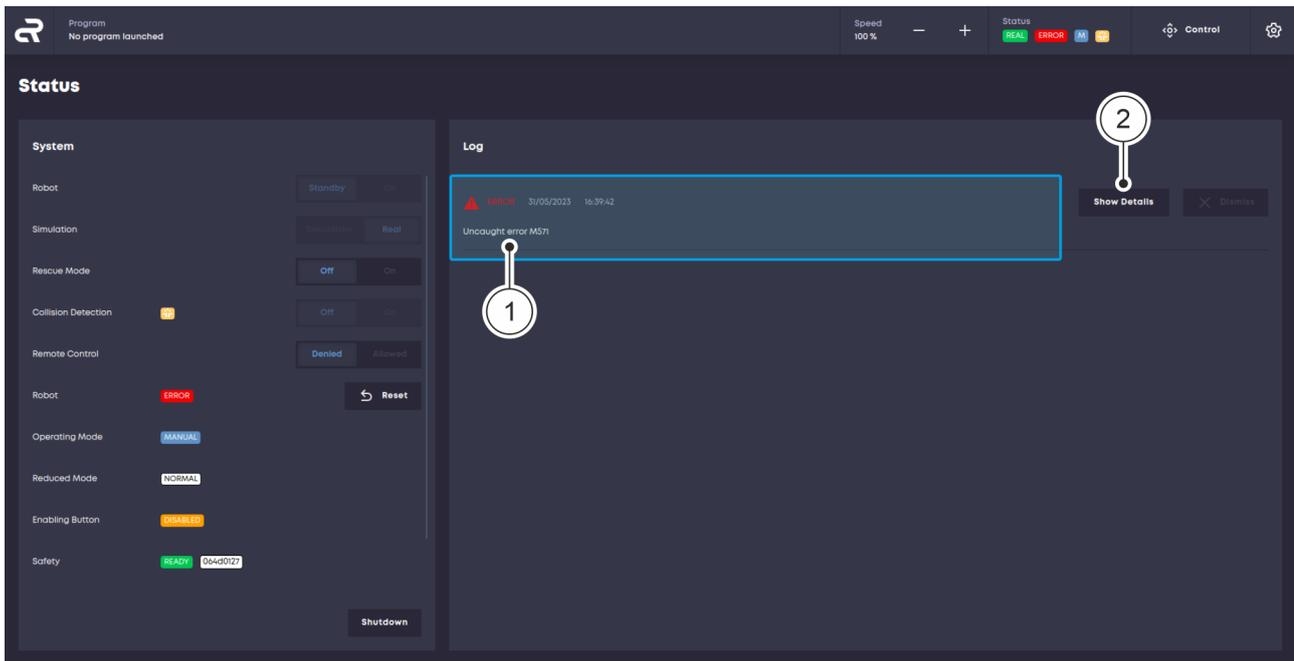
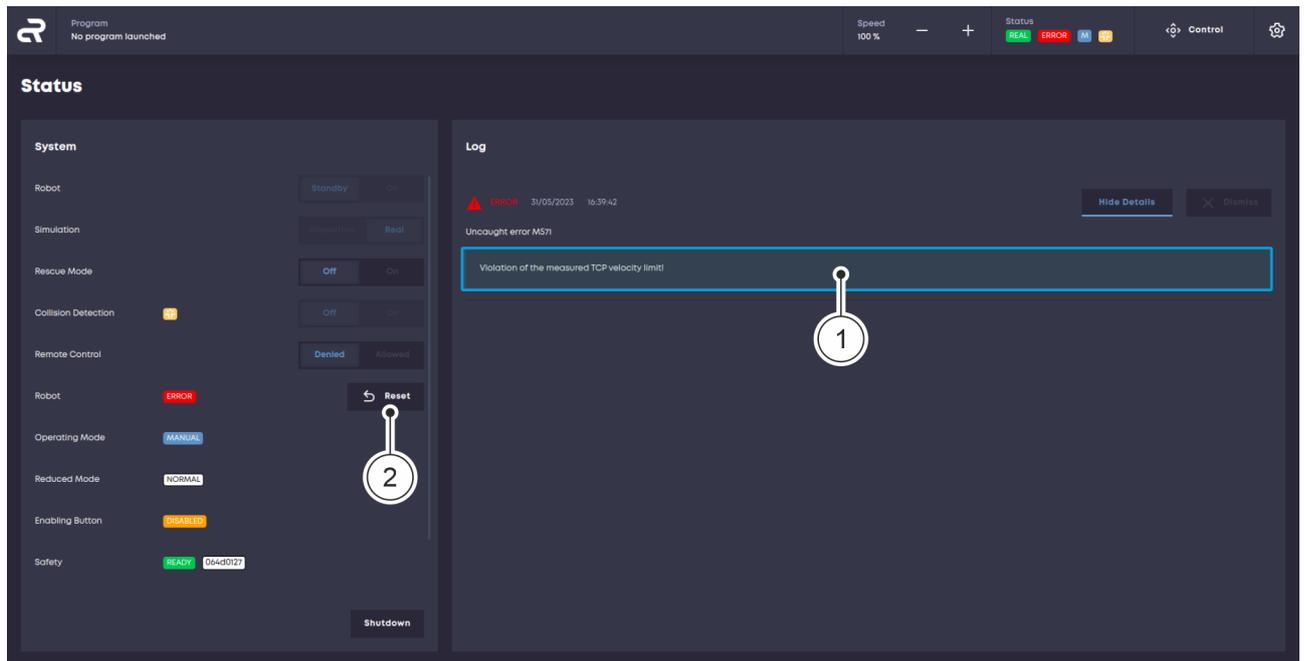

Fig. 61 Viewing the fault message history
Fig. 62 Acknowledging a fault message
- ▶ Fault messages are displayed in the 'Log' menu Fig. 61 / ①.
If a fault is present, the **ERROR** icon is also displayed in the status display and in the 'Status' menu Fig. 61.
02. In the 'Log' menu, click on the 'Show Details' button Fig. 61 / ② for information on the fault message Fig. 62 / ①.
04. On the main screen, click the ‘Reset’ button to acknowledge the fault message Fig. 62 / (2).